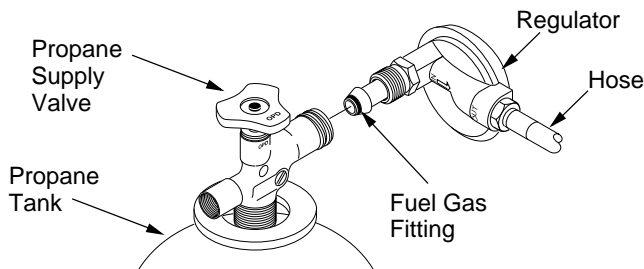

Figure 6 - Regulator Position
2. Connect fuel gas fitting on hose/regulator assembly to propane tank(s). Turn fuel gas fitting counterclockwise into threads on tank. Tighten firmly using a wrench. **IMPORTANT:** Position regulator so that hose leaving the regulator is in a horizontal position (see Figure 6, page 5). This places the regulator vent in the proper position to protect it from the weather.